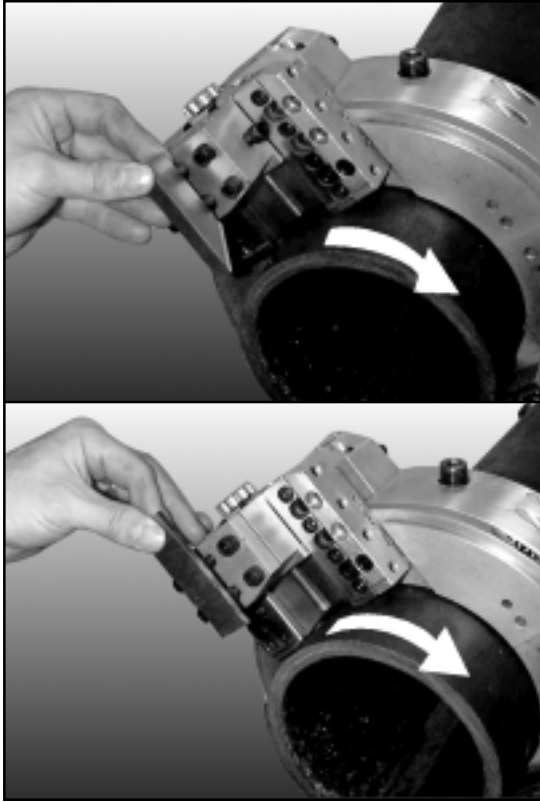

FIGURE 2
9. Install the parting and beveling tools into the appropriate tool holders so the tool is resting on the entire clamping area. The cutting edge should be above the pipe O.D.(Figure 2).